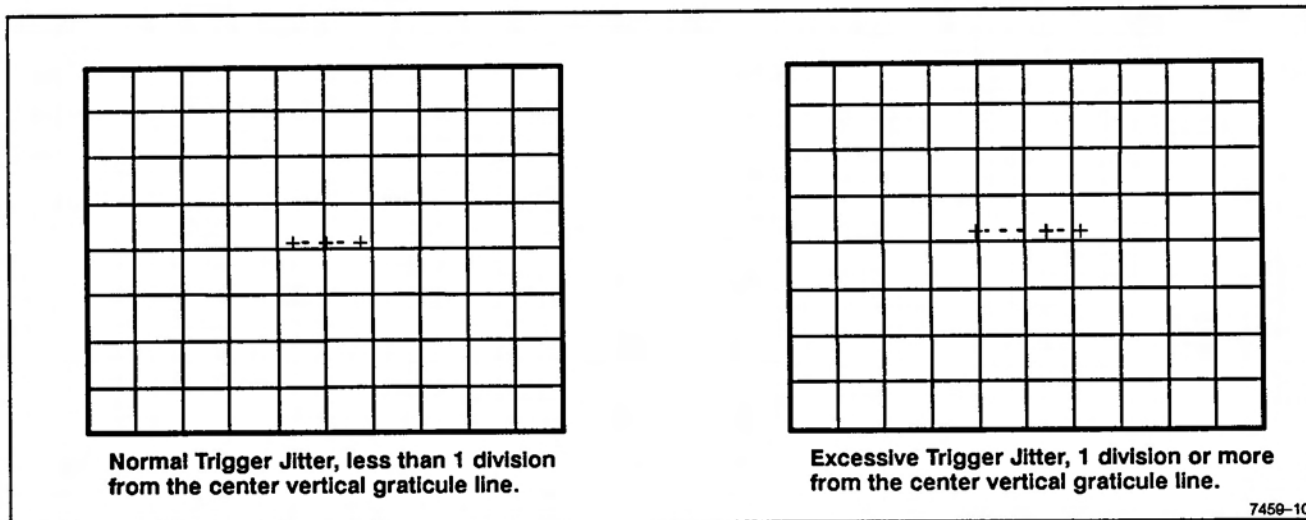

Figure 4-2. Trigger Jitter check.
- e. CHECK—that the trigger position indicator (+) remains within the center two horizontal divisions (see Figure 4-2) An occasional jump outside the center two divisions is all right.